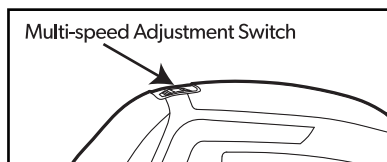

Figure 3
2. To adjust speed, turn the Multi-speed Adjustment Switch from 1 (the slowest speed) to 6 (the fastest speed). See Figure 3, below.